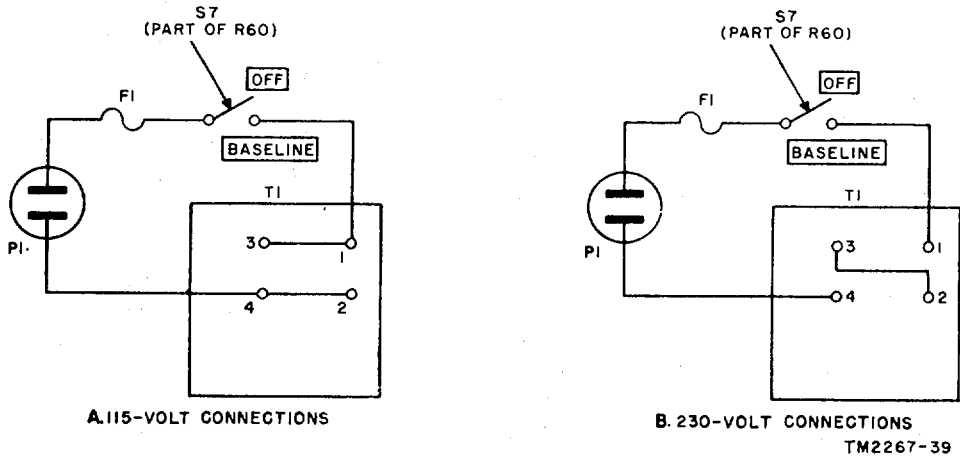

Figure 2. Transformer T1, primary connections.
Note. For location of controls, refer to figures 2 and 4 in TM 11-6625-207-10
a. 115-volt Connections (A, fig. 2).
- (1) Disconnect the power cord from the source of power.
- (2) Remove the chassis from the cabinet (TM 11-6625-207-10).
- (3) Remove the jumper wires from between pins 2 and 3.
- (4) Connect a jumper wire between pins 1 and 3.
- (5) Connect a jumper wire between pins 2 and 4.
- (6) Connect the power cord to the power source.
- (7) Turn the BEAM switch to OFF and the OFF-BASELINE control clockwise; the power indicator will glow.
- (8) Turn the OFF-BASELINE control to OFF and disconnect the power cord from the power source.
- (9) Replace the chassis in the cabinet.
b. 280-volt Connections (B, fig. 2).
- (3) Disconnect the jumper wires from between pins 1 and 3 and 2 and 4.
- (4) Connect a jumper wire between pins 3 and 4.
- (5) Follow the procedures given in a(6) through (9) above.